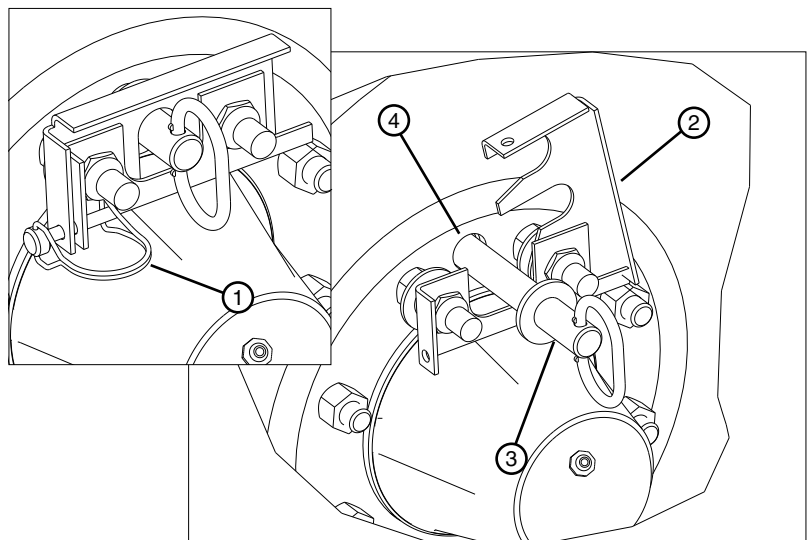

Figure 25-3 1. Lynch Pin
4. Remove lynch pin from retainer clip, then open retainer clip and pull the torque pin from axle torque arm behind gearbox hub and hub torque pin receiver. See figure 25-3.